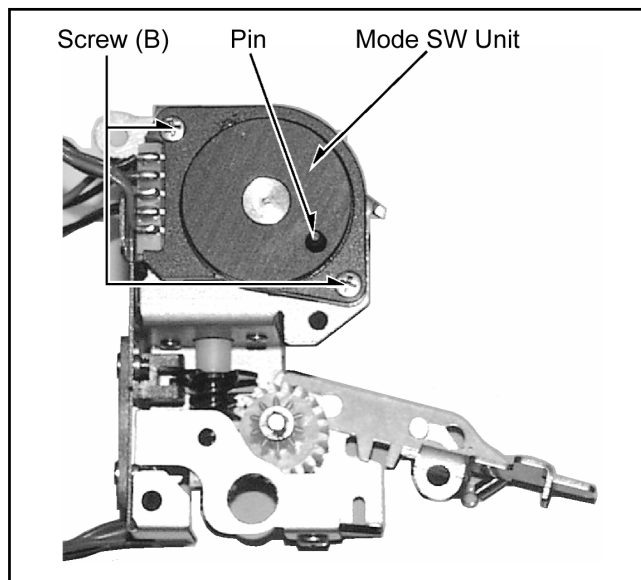

Figure 2-9-2
6. Unscrew the 2 screws (B) as shown in Figure 2-9-2, and remove the Mode SW Unit.